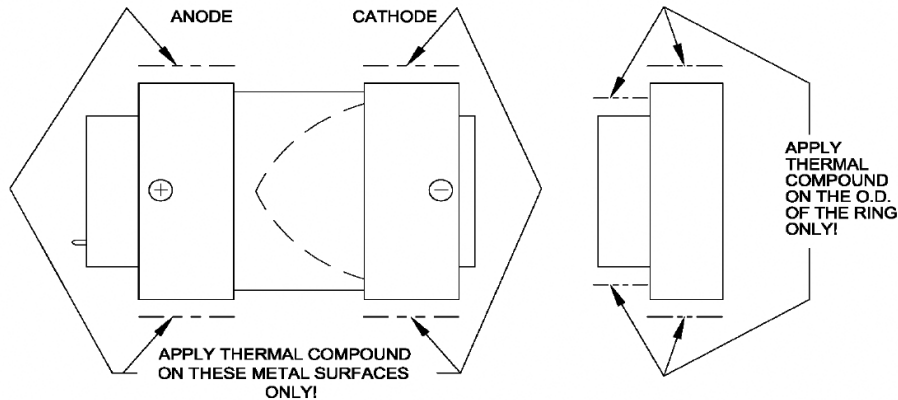

Fig 3. Thermal Compound Application
7. Apply a light coat of the thermal compound (supplied with the lamp) on the collar (anode side +) of the lamp. See Figure 3. Insert the lamp into the anode heatsink, line up with hole pattern on heat
8. Apply a light coat of the thermal compound (supplied with the lamp) on the collar (cathode side -) of the lamp. Insert the cooling ring into the collar (cathode side -) of the lamp. Apply a very thin coat of thermal compound to the collar and outside of the cooling ring. See Figure 3.